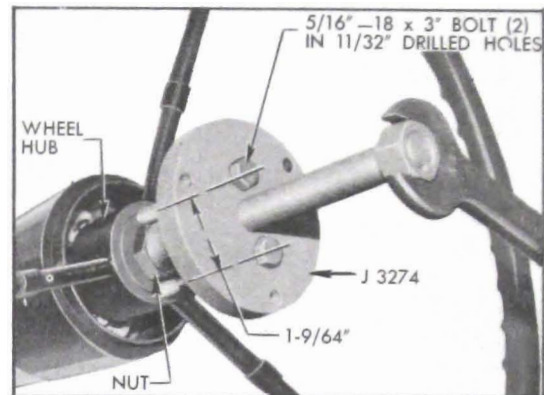

Figure 8-7—Removing Steering Wheel with Puller J 3274
4. Apply Puller J 3274 and pull wheel back to nut. See figure 8-7. **NOTE:** If wheel hub is very tight on shaft, apply a moderate strain with puller then tap end of puller screw to break hub loose from shaft without distorting wheel hub. Remove puller, nut, and steering wheel.